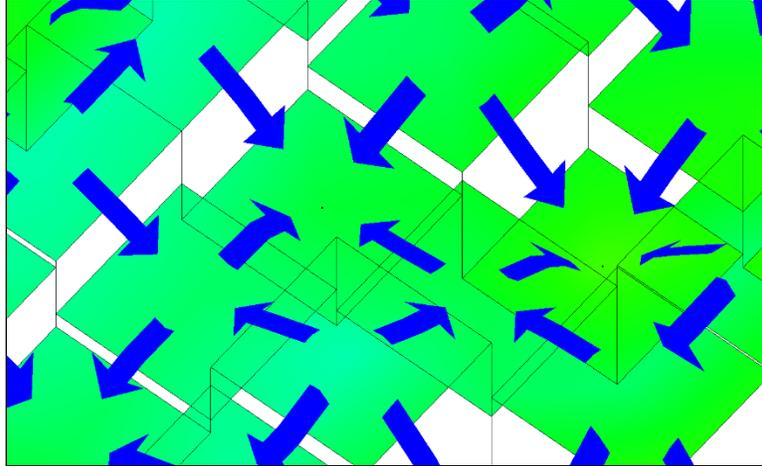

Figure 2 Digital dam cells where ponding occurs
16. Use the **Rotate** , **Pan** , and **Zoom**  tools to look at a digital dam cell. The digital dam will have indications of ponding as shown in Figure 2.